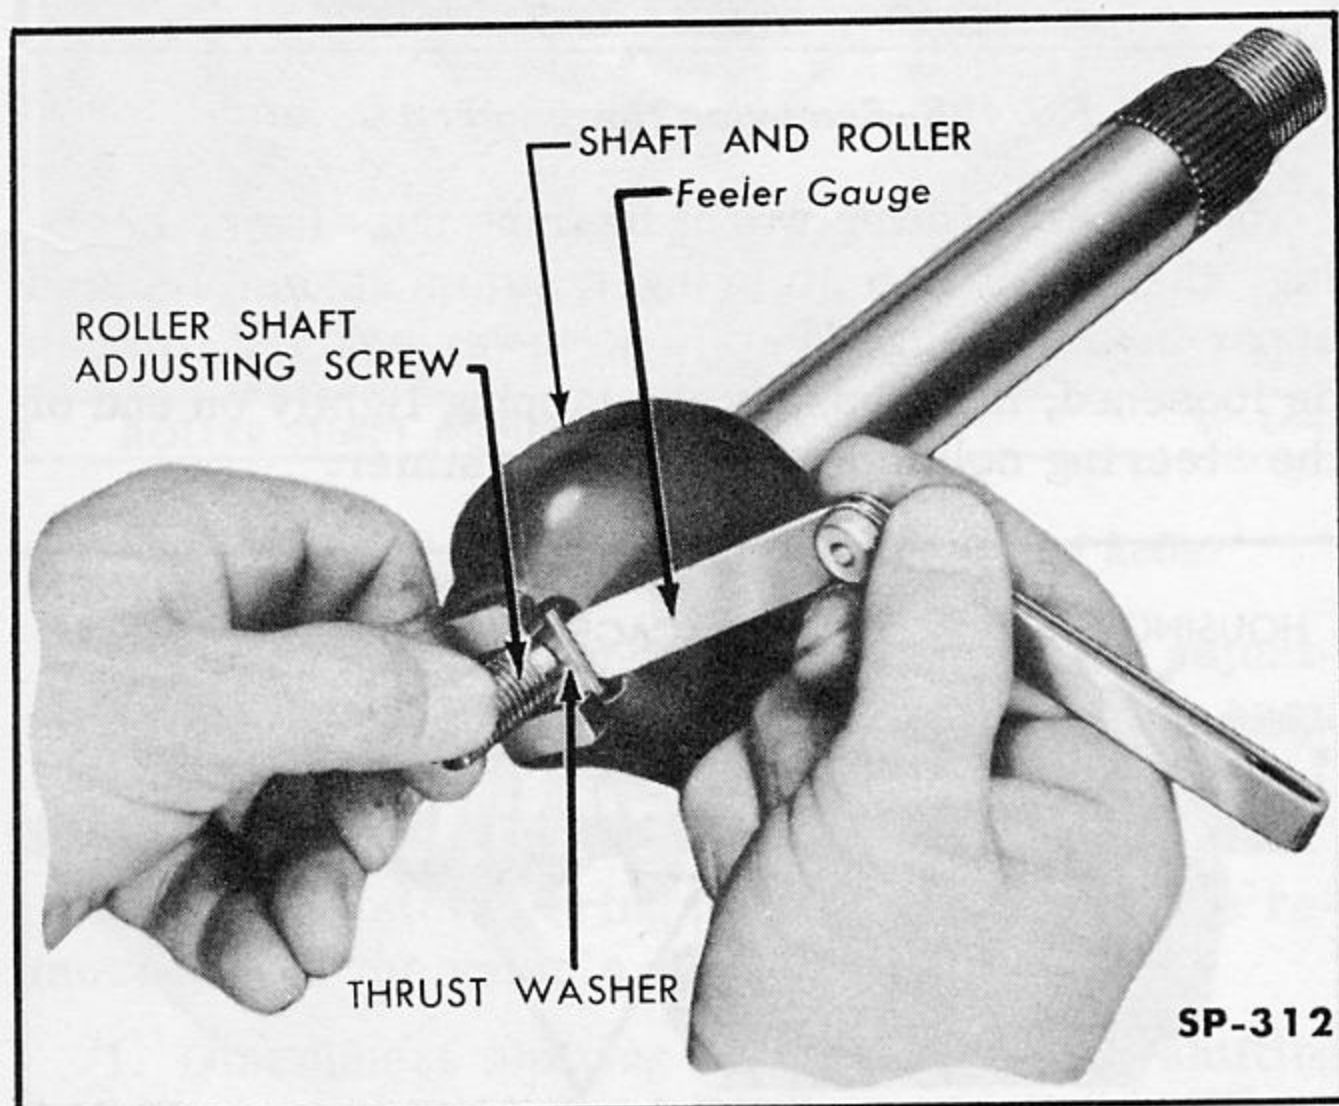

Fig. 200—Checking Roller Shaft Adjusting Screw Clearance
3. Check shaft and roller adjusting screw threads. With adjusting screw and thrust washer inserted in slotted end of roller shaft, check clearance between head of screw and bottom of slot as shown in Fig. 200. Clearance must be .002 of an inch or less. Replace thrust washer and/or adjusting screw as required to obtain correct clearance.